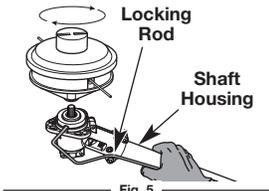

Fig. 5
3. Hold the locking rod in place by grasping it next to the boom of the shaft housing (Fig. 5).
4. While holding the locking rod, remove the cutting head attachment by unscrewing it clockwise (Fig. 5). Store the cutting head for future use.